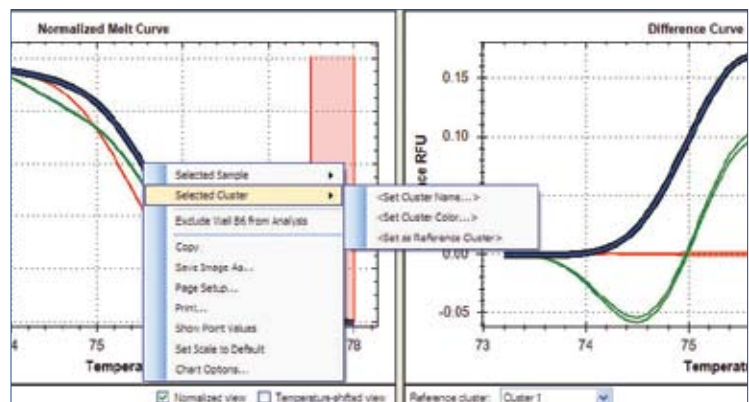

Fig. 9. Changing cluster parameters.
4. Right click on the fluorescence trace of a well in the Melt Curve or Difference Curve chart to change the selected sample or selected cluster parameters (Figure 9).